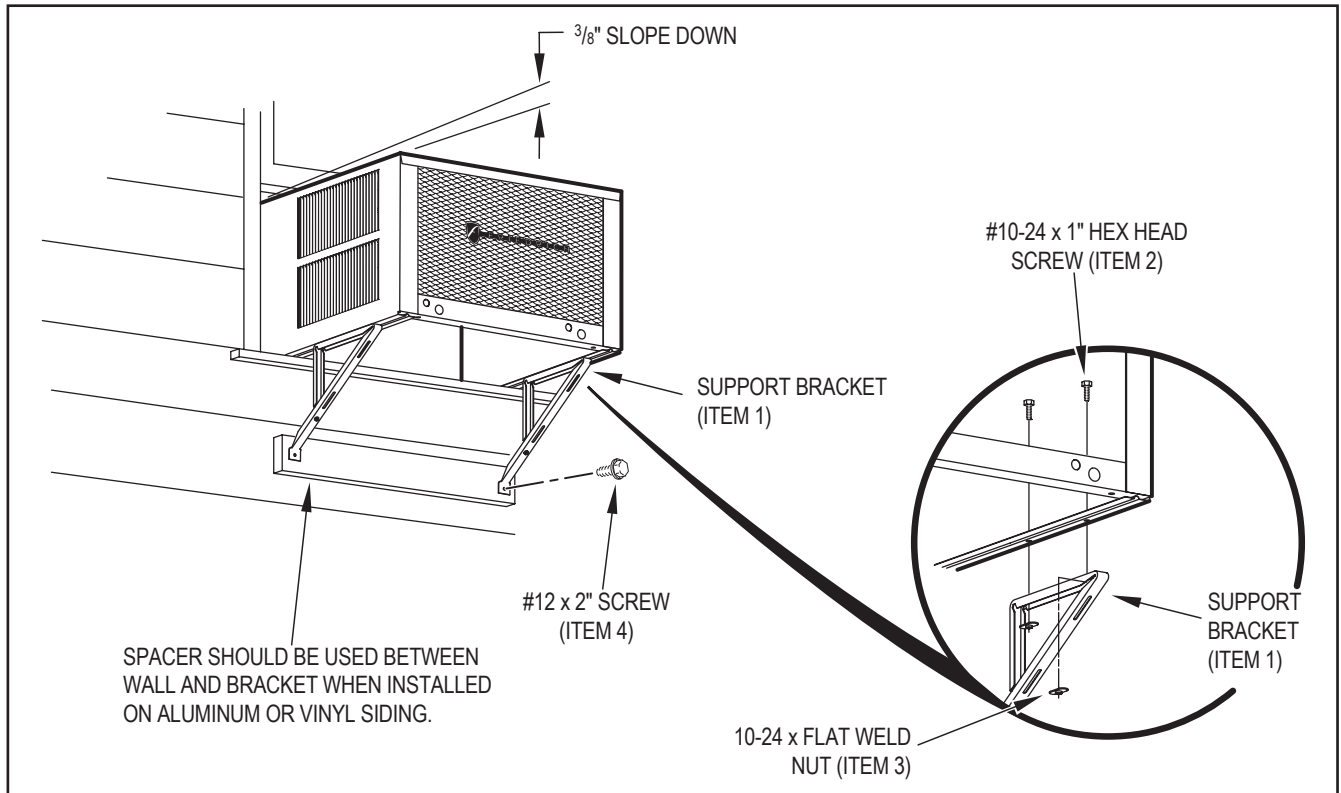

Figure C.4.6
STEP 6. OUTSIDE SUPPORT MOUNTING – Refer to Figures C.4.6 and C.4.7 Assemble the support brackets (Item 1) to the bottom of the cabinet with four (4) 10-24 1" long screws (Item 2) and four 10-24 flat nuts (Item 3). Adjust the support brackets, using a combination of the elongated holes of the bracket and different hole locations in the cabinet, to bring the bottom support bracket pads in contact with the wall. A 1" x 4" or 2" x 4" SPACER SHOULD BE USED BETWEEN THE WALL AND SUPPORT THE BRACKETS WHEN INSTALLED ON ALUMINUM OR VINYL SIDING. Drill $\frac{5}{32}$ " diameter pilot holes and secure the brackets to the wall with two (2) 12A x 2" long screws (Item 4).
Adjust the support brackets to provide an inside-to-outside slope for excess condensation drainage (refer to Standard Window Installation, Figures C.4.6 through C.4.8). Tighten all screws.